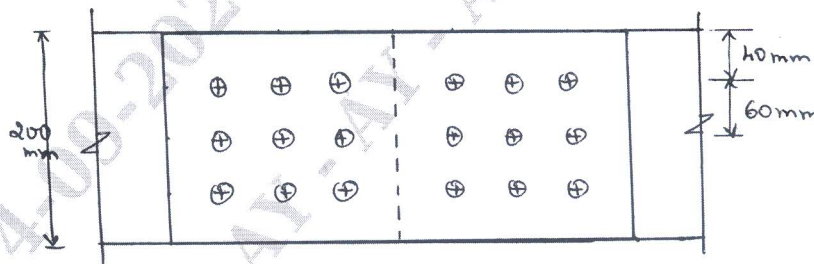

Fig.Q.3(b)
b. A double cover butt joint is used to connect two flats 200 ISF 10 with 8mm cover plates. The two plates are connected by 9 bolts in chain bolting at a pitch of 60mm and edge distance of 40mm. The bolts are arranged in 3 rows with 3 bolts in each row as shown in the Fig.Q.3(b). Determine the strength and efficiency of the joint. The diameter of the bolts used is 20mm. Assume grade of bolt as 4.6. (Assume both thread and shank to interfere the shear plane). (10 Marks)